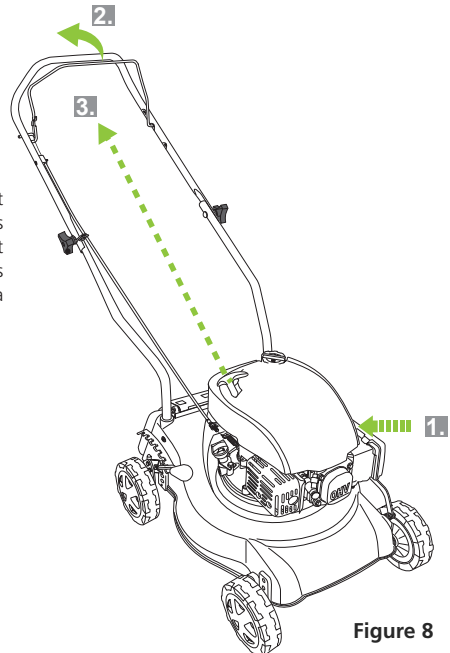

Figure 8
2. Locate the fuel primer (Fig.8 Point 1).